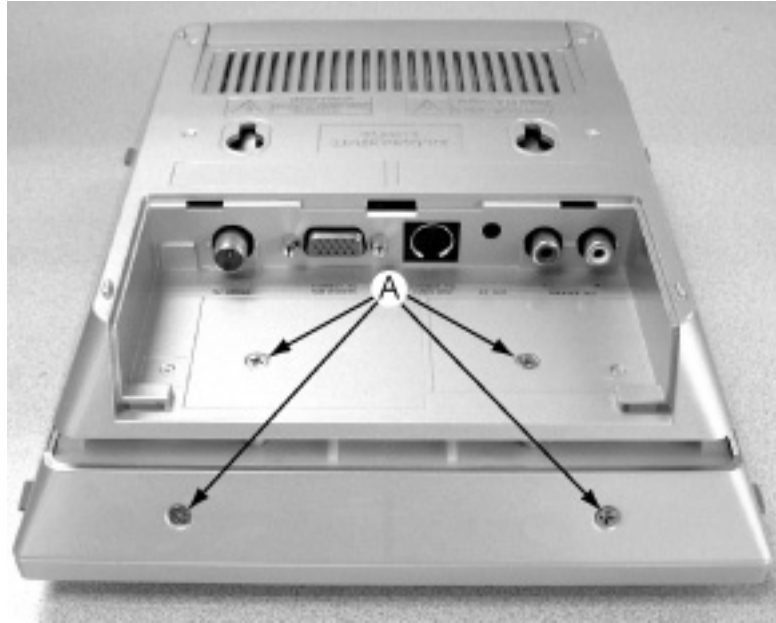

Figure 1
- 1) Loosen & remove 4 screws A (see figure 1).